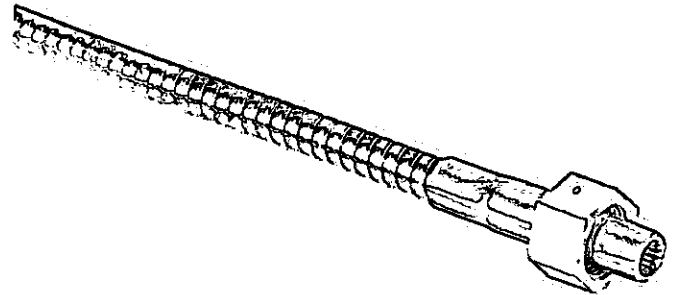

Figure 8. Typical Flexible Shaft Assembly
1. Disconnect the flexible rotary shaft assembly (figure 8) from the speed setting actuator.